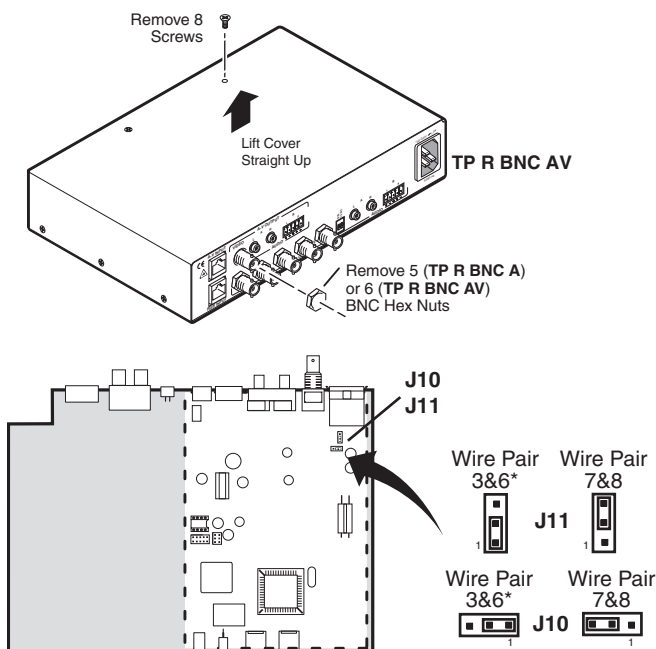

Figure 2-2 — Audio jumper configuration
1. Remove three screws on each side and two screws on top of the cover (figure 2-2).
4. Locate J10 and J11 on the composite video printed circuit board. See figure 2-2.